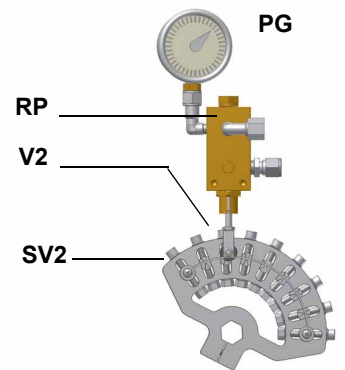

Fig. 5
- 2 Remove screws 1 ÷ 4 using the Allen key n. 3 and remove filter cover 5 in Fig. 5.
3. Screw VD on with 2 M5 screws for each, max. 5 Nm/44 in.-lb., fig. 5/6.